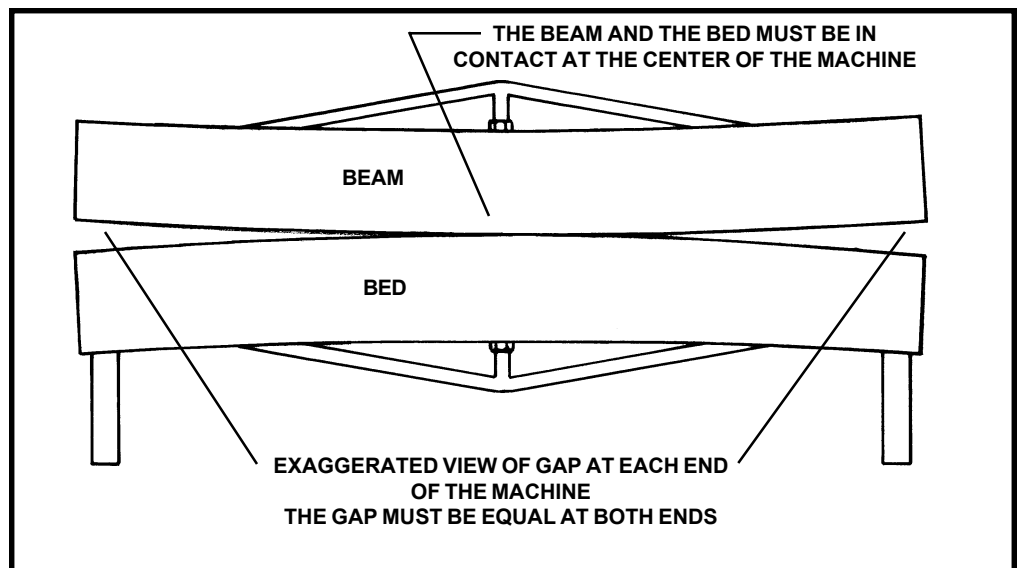

Figure 11. Proper Clearance Between the Upper Beam Clamp and the Bed.
5. When looking from the rear of the brake, the upper beam and the bed should be in contact at the center and showing a crack of light at each end (see Figure 11). If less light shows at one end, loosen the rear floor bolt at that end and shim under the leg until the light shows evenly at both ends.
6. Tighten the lower toggle pin adjusting nut against the bottom of the toggle anchor (see Figure 11).